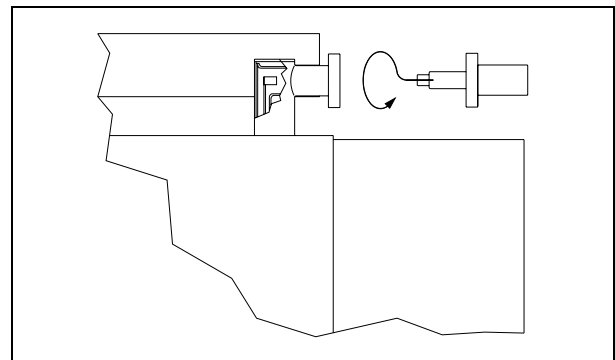

Fig. 25 - High voltage feedthrough connection
1. Remove the 6 bolts of the Mini-ConFlat flange connection (see Fig. 25).